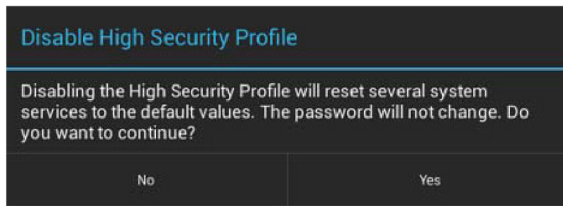

FIG. 100 Disable High Security Profile dialog
2. The panel will alert you to the fact that disabling the High Security profile will reset several system services to their default values, and that the password will not be changed. Press **Yes** to proceed (FIG. 100): .